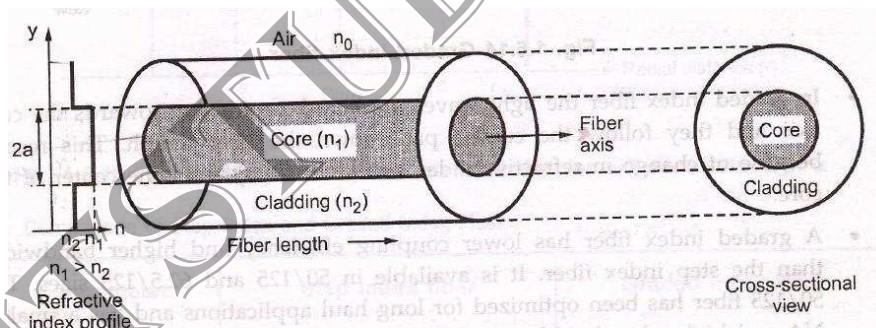

Fig. 1.6.13 Step index fiber
- x The step index (SI) fiber is a cylindrical waveguide core with central or inner core has a uniform refractive index of  $n_1$  and the core is surrounded by outer cladding with uniform refractive index of  $n_2$ . The cladding refractive index ( $n_2$ ) is less than the core refractive index ( $n_1$ ). But there is an abrupt change in the refractive index at the core cladding interface. Refractive index profile of step indexed optical fiber is shown in Fig. 1.6.13. The refractive index is plotted on horizontal axis and radial distance from the core is plotted on vertical axis.